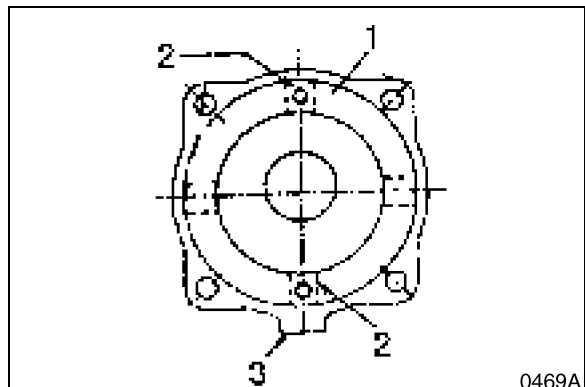

Figure 40
14. Position brake piston (1, Figure 40) in casing. The diagram shows position of four piston grooves (2) in relation to valve-connected side (3), and two 8 mm bolts which should be tightened in an even, progressive rotation.